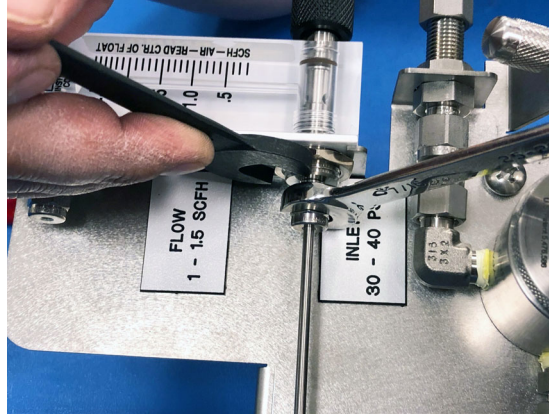

Figure 40: Disconnecting the rotameter
1. Disconnect the tubing feeding into the rotameter by placing a 5/8 in. extra-thin open-end wrench on the flat of male thread closest to the tubing of the rotameter and use a 7/16 in. open-end wrench to loosen the nut. Complete this step for both the top and bottom connections. Refer to Figure 40.